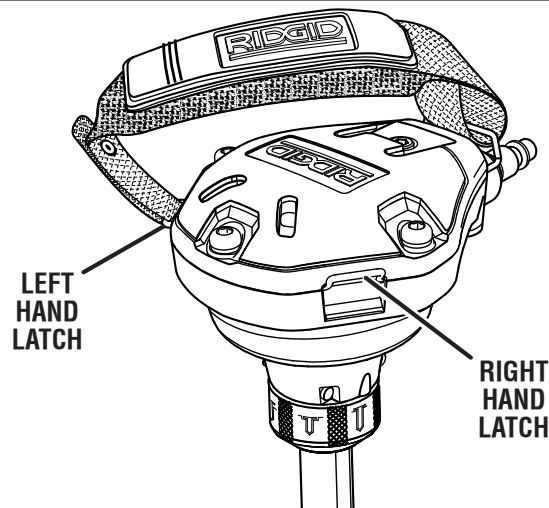

Fig. 6
See Figure 6 - 7.
- Determine which hand the palm nailer will be used with and attach the hand strap to the latch according to figure 6.